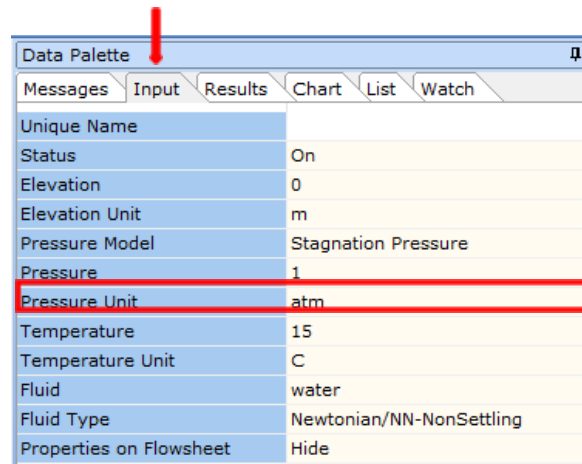

Figure 8: Input Inspector.
9. We can now edit the data entry for both nodes at once from the Input Inspector on the *Data Palette* (Figure 8).